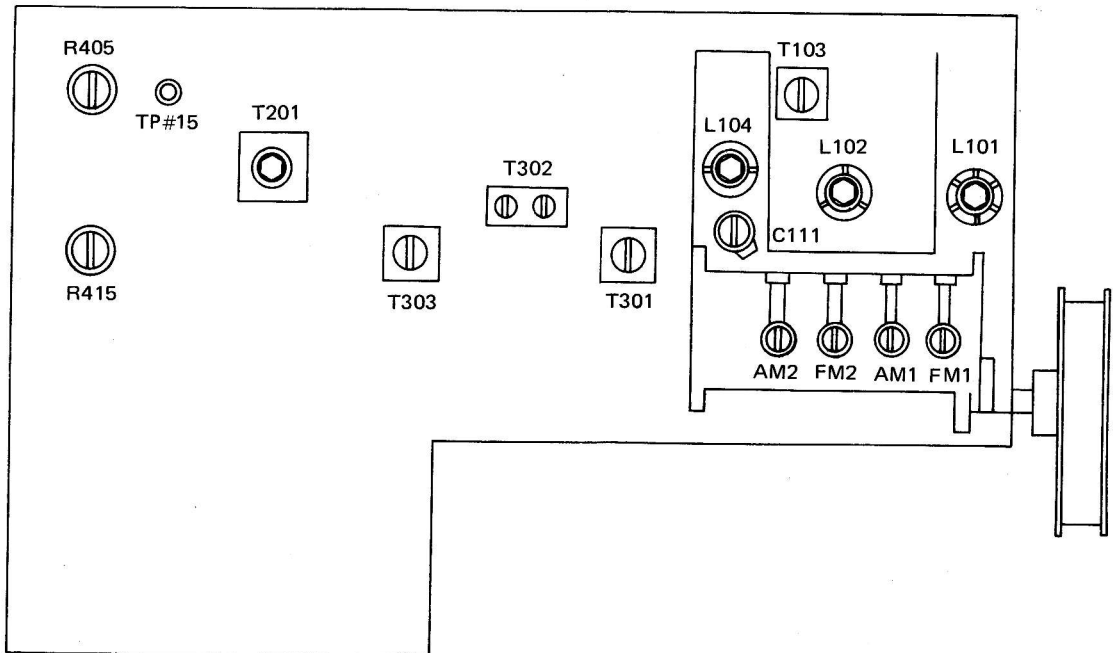

Fig. 2
For adjusting point, refer to Fig. 2.
Note: For adjusting point, refer to Fig. 2.
For adjustment point, refer to Fig. 2.
- (1) With the receiver set to a high receiving frequency (variable capacitor in full open position), adjust T302 and T303 until the IF waveform becomes maximum.
- (2) If, in this case, the adjustment is difficult because of disturbing signal, the variable capacitor may be turned to facilitate the adjustment.
- (3) The waveform displayed on the alignment oscilloscope is as shown in Fig. 4. For adjusting position, refer to Fig. 2.